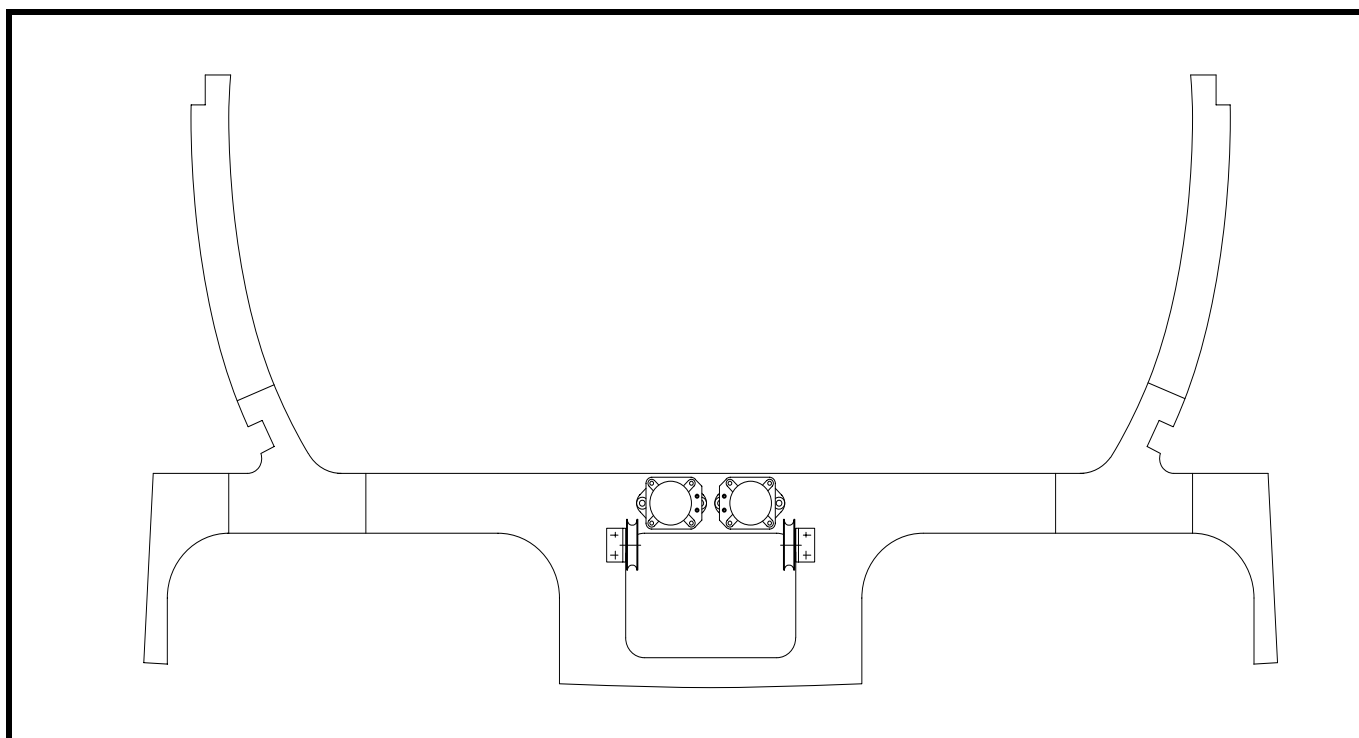

Figure 22
- ❑ Install the rudder cable pulleys on the front face of fuselage frame No. 5 as shown in Figure 22. See Detail A, Drawing No. 310. You will find Detail A on the right side of the sheet. We forgot to put a "see Detail A" on the drawing—sorree!
- ❑ Drill the two 3/16"Ø holes for the K3 gear-up relay and K4 gear-down relay on the forward face of fuselage frame No. 5 as shown in Figure 22. The relays should be installed so that the small field terminals are on the inboard side, and the gear-up relay should be on the right side of the aircraft. With the relays installed like this, the wires to the landing gear motor can be attached directly to the relays and there is no need for the TB4 terminal block; however, if you choose to install the terminal block, you may install it on the top of the frame at the centerline of the airplane.